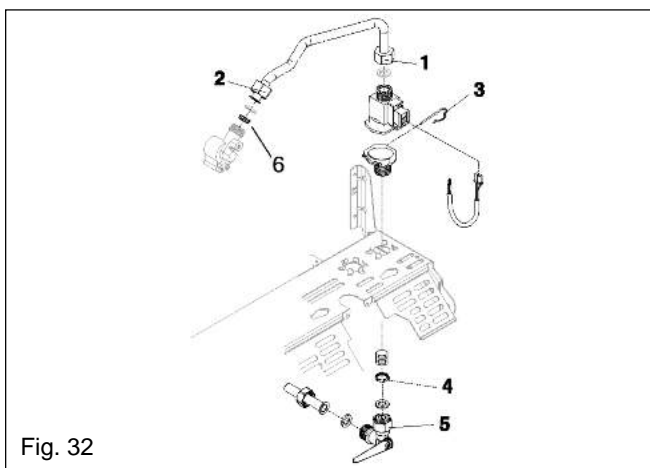

Fig. 32
6.19 FLOW RESTRICTOR (see fig. 32)
6.20 DHW FLOW SWITCH (see fig. 32)